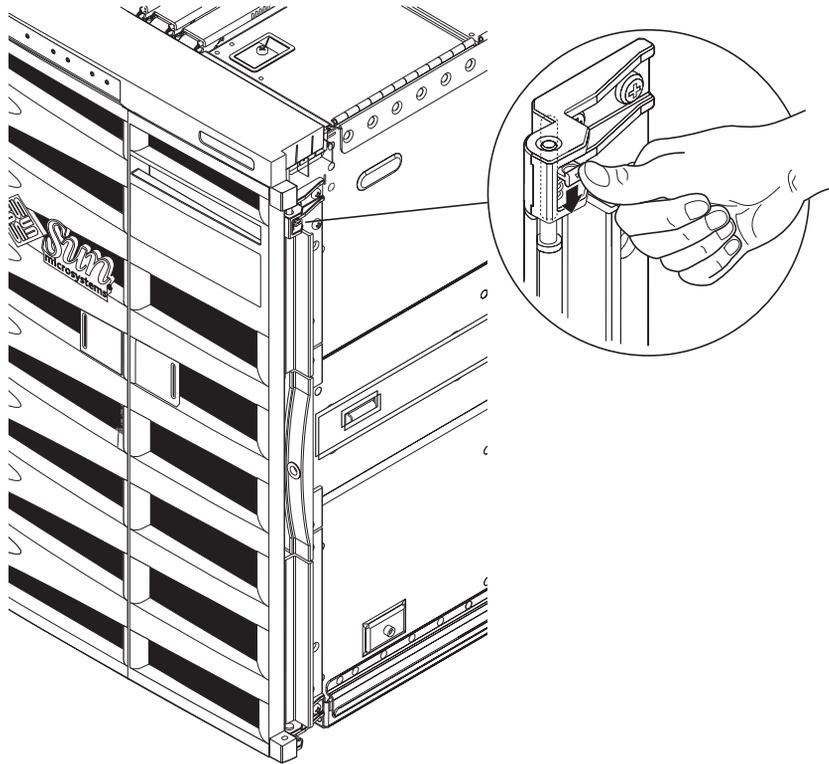

FIGURE 1-8 Releasing the Door Hinge Mechanism
1. Remove the front bezel doors (FIGURE 1-8).